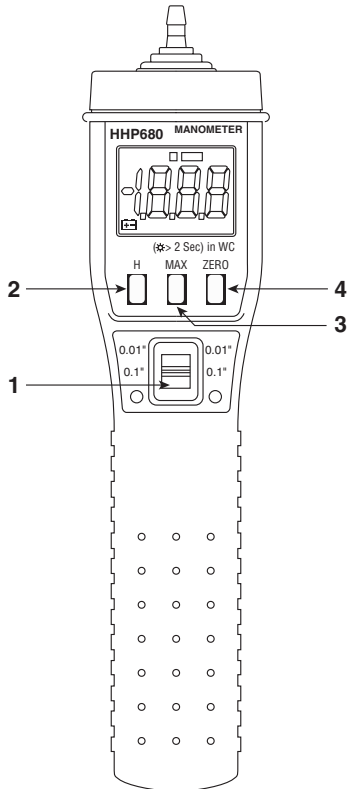

Figure 2. Positions of Switch and Button
1. On/Off and Unit Selection (Refer to figure 2):
2. Hold the measured value (Refer position 2 in figure 2 for the "H" button):
3. Max value of a changing pressure (Refer position 3 in figure 2 for the "MAX" button):
4. Zeroing (Refer position 4 in figure 2 for the "ZERO" button):